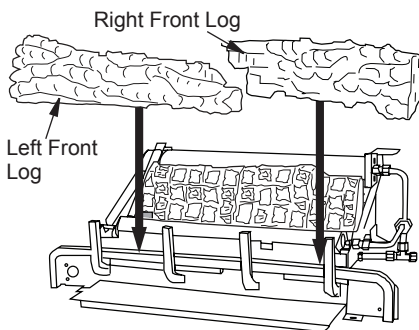

Figure 23 - Installing Left/Right Front Logs
- Place front left (18" D-064, 24" D-057 & 30" D-038) and front right (18" D-065, 24" D-058 & 30" D-039) logs as shown in Figure 23.